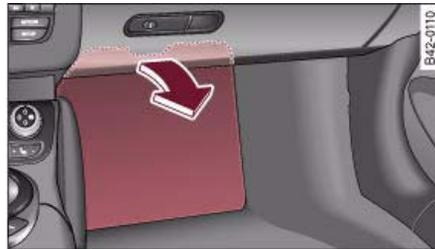

Fig. 133 Passenger's footwell: Foot rest/fuse box
- Fold out the foot rest ⇒ fig. 133.